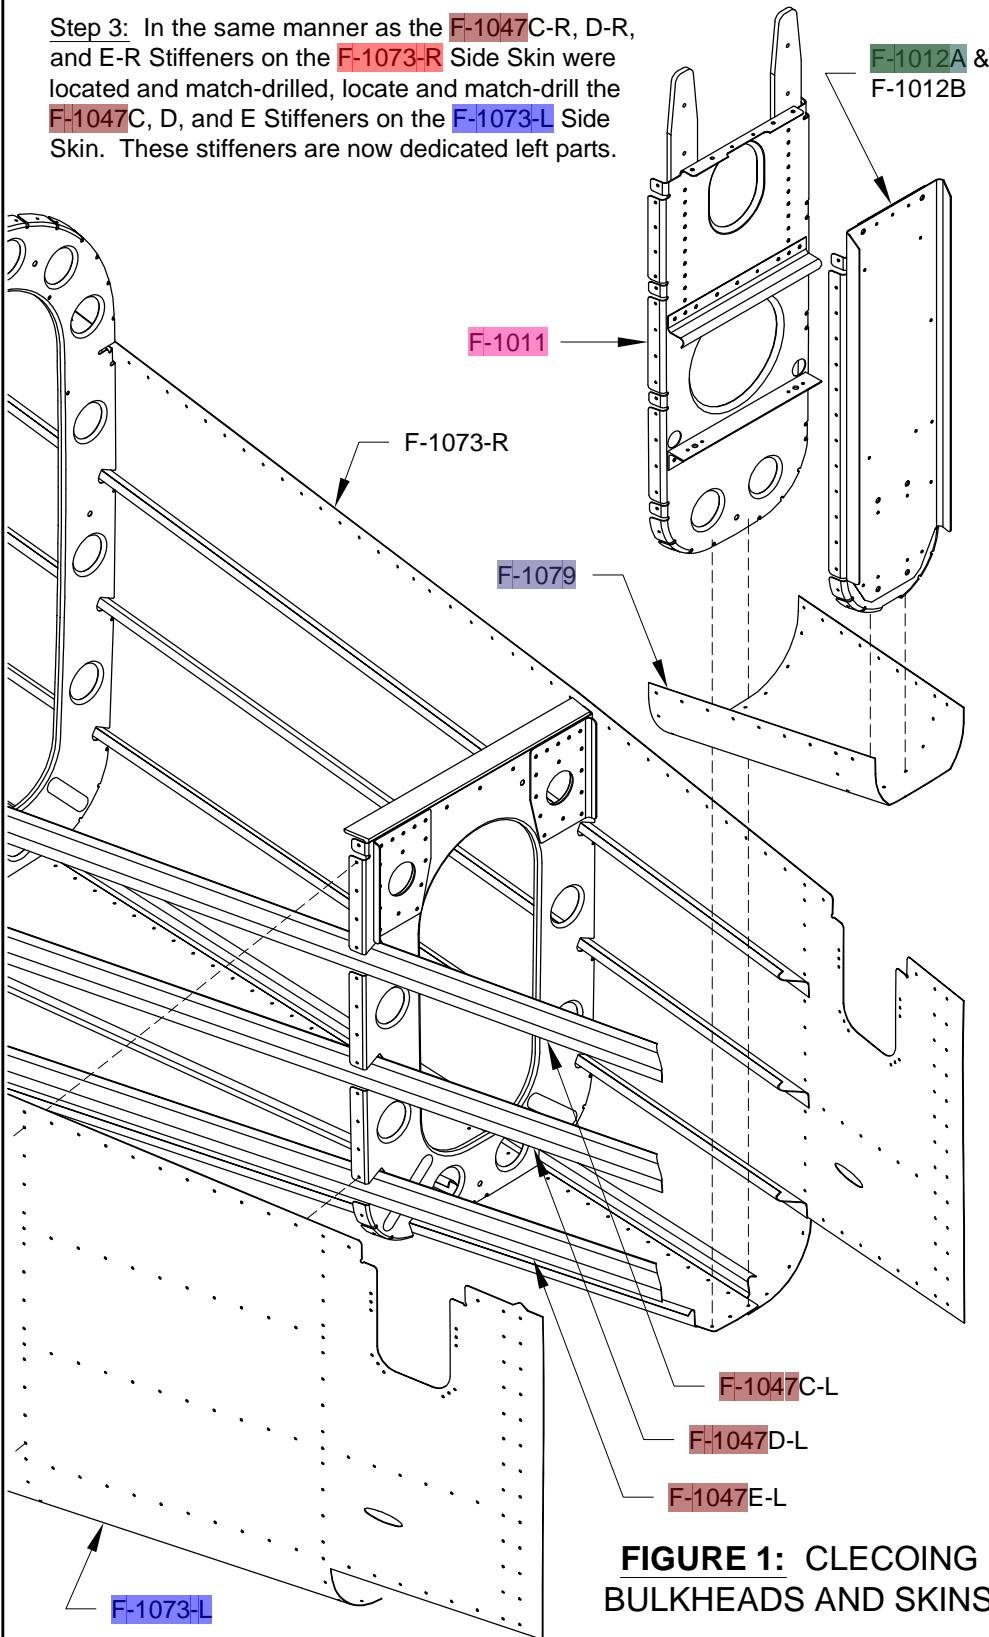

FIGURE 1: CLECOING BULKHEADS AND SKINS
Step 1: Flip the tailcone over on the sawhorses. Cleco the F-1011 Bulkhead and the F-1079 Aft Bottom Skin to the F-1078 Forward Bottom Skin and the F-1073-R Side Skin as shown in Figure 1. Cleco the F-1012A & B Bulkheads to the aft bottom skin and the side skin.